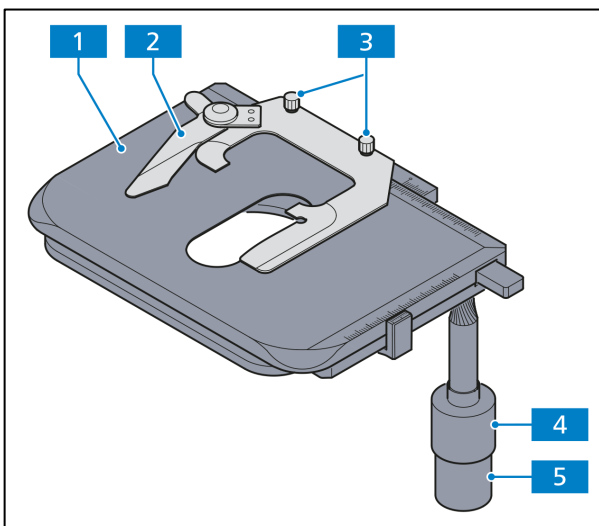

Fig. 2-12 Mechanical stage with specimen holder
- Mechanical stage (Fig. 2-12/1) with specimen holder (Fig. 2-12/2) for holding and positioning the samples
- Two clamping screws (Fig. 2-12/3) for attaching and removing the specimen holder
- Coaxial knurled knobs for X (Fig. 2-12/5) and Y adjustment (Fig. 2-12/4)